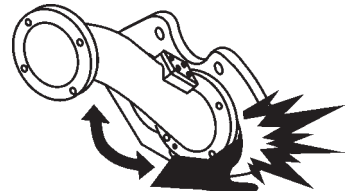

**Figure 52. Battery Electrolyte Levels**
- Check the battery regularly and make sure that each electrolyte level is to the bottom of the vent well (Figure 52). If necessary add only distilled water in a well-ventilated area. Never operate or recharge without sufficient fluid in the battery.